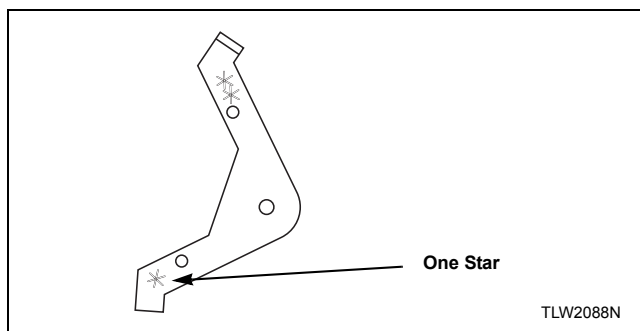

Figure 21
2. Install extension lever with arm that has one star facing down. Refer to *Figure 21*.